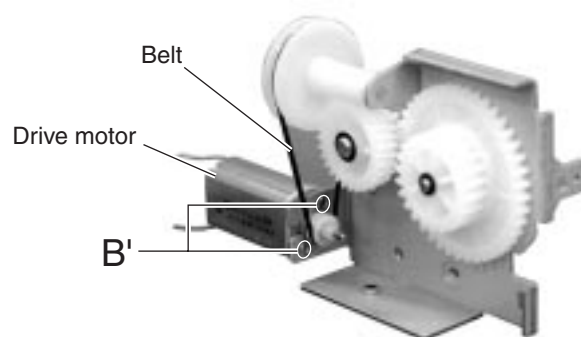

Fig.43
■ Removing the belt/ drive motor (See Fig.43)